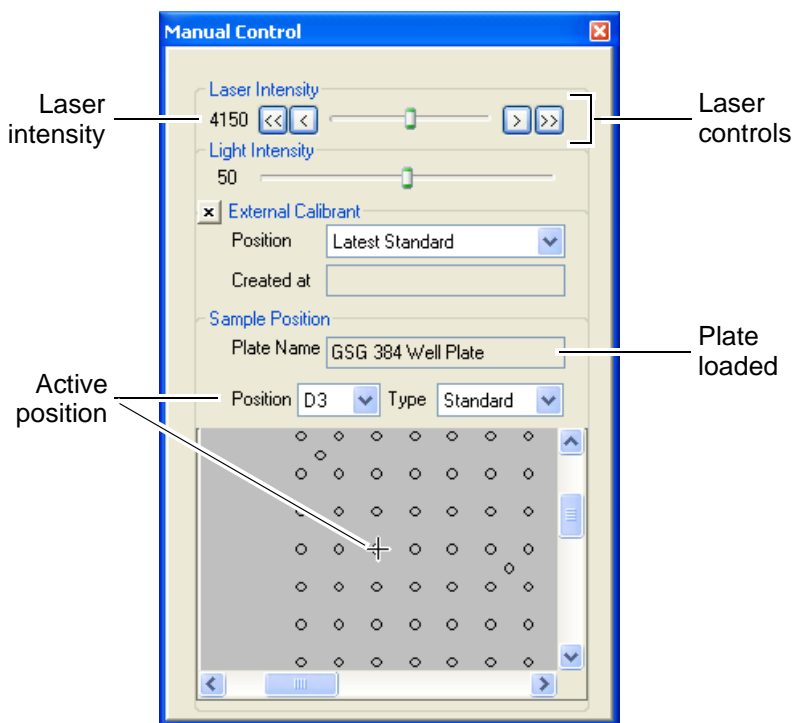

Figure 4-5 Manual Control Window (Partial Plate View)
The Manual Control window opens (Figure 4-5), displaying the Plate Name you selected when you loaded the sample plate.
- Increase the laser intensity in the Manual Control window. See Figure 4-5 on page 4-8.